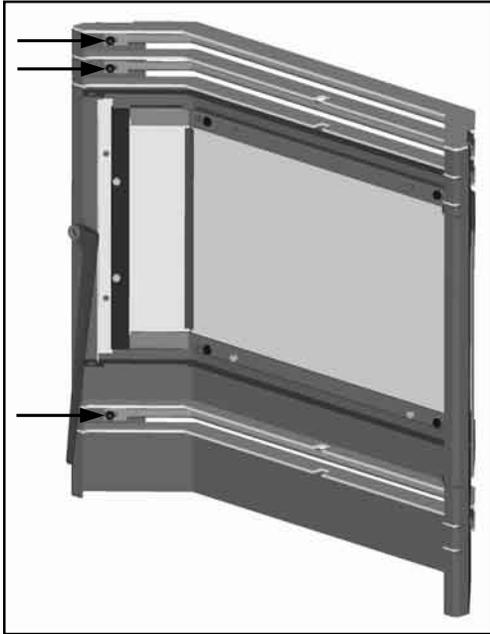

Figure 45: Door with louvers.
Door must be open. The three (3) arrows in Figure 45 point to three (3) of the nuts that hold the louvers on. There are three nuts on each end. Remove the six nuts by hand; if the nuts are tight, a  $1\frac{1}{32}$ " socket can be used. When removing the louvers, pull one end of the louver up over the stud. If it is difficult to remove the louver, push on one side from the front, then pull the other end off the second stud.